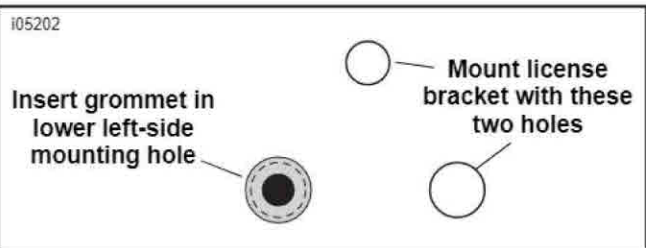
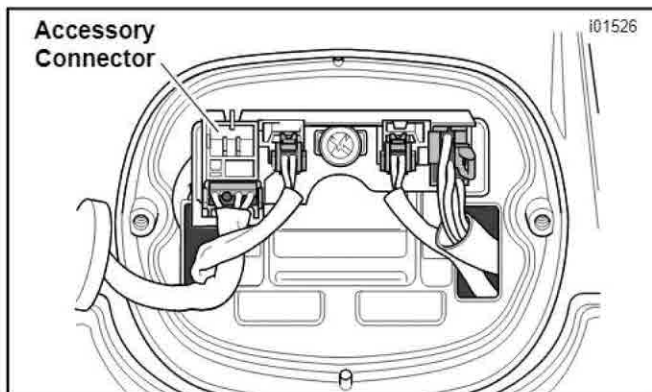

Figure 1. Grommet Location in License Plate Bracket
Figure 3. Connecting the License Plate Frame
Peel the paper backing from the front side of the pad. Position the license-plate support onto the pad, and re-attach with the original hardware in the upper and right-side lower holes only (see Figure 1). Tighten securely.
5. See Figure 1. Insert the grommet (10) from the kit into the lower left-side hole in the license-plate bracket, through the support and into the fender.
6. Insert the license plate into the frame. Place a flat washer (6) onto one of the short screws (4) from the kit. Insert the screw into one of the upper license-plate mounting holes in the frame (1a), through the license plate, the backing plate (1b), another flat washer and a lock nut (7) from the kit. Repeat for the other upper license-plate mounting hole.
13. See Figure 3. Route the license-plate frame harness through the left-side opening in the tail lamp base, and plug the socket housing into the Accessory connector at the upper left of the tail lamp circuit board. Use tie straps (12) from the kit as needed to secure the wiring.
15. Peel the backing off of the reflector (8) from the kit. Hold the reflector up to the license plate bracket just below the new license plate frame, and press firmly into place. Proceed to Step 22, on Page 6.
11. Insert the wires from the license-plate frame, one at a time, through the grommet (10) in the fender. Pull the wires and conduit through the grommet to the underside of the fender, and through the left-side opening in the tail lamp base.
12. See Figure 3. Unplug the fender tip lamp from the Accessory connector at the upper left of the tail lamp circuit board. Cut the fender tip lamp wires as close as possible to the connector, and discard the connector.